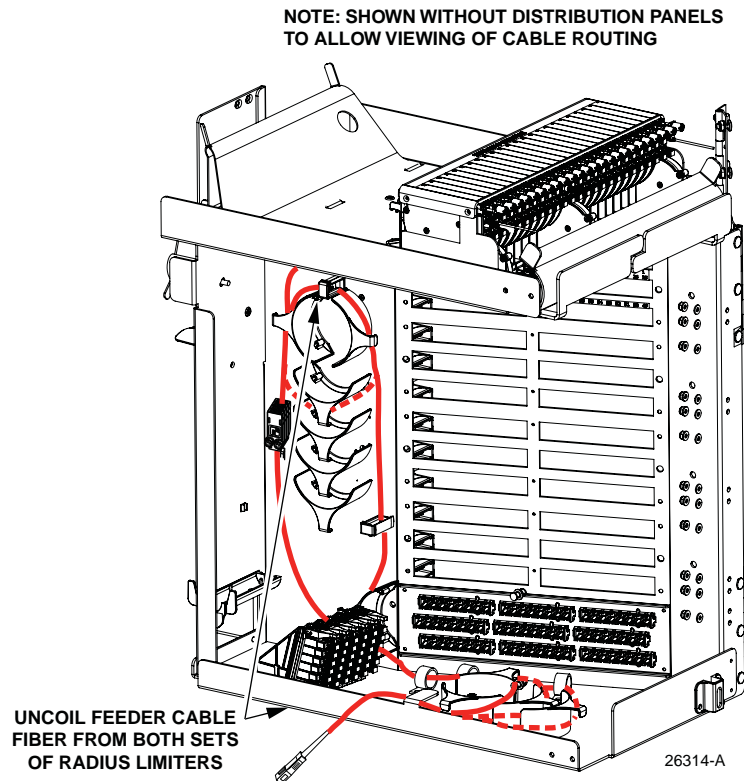

Figure 36. Uncoiling the Feeder Cable Fiber
6. Carefully unwind the feeder fiber from the radius limiters located on the bottom and on the left side of the swing-out assembly. Figure 36 shows the section of the fiber that will need to be released for re-routing. When necessary, backfeed the fiber to free the connector from the remaining fibers.